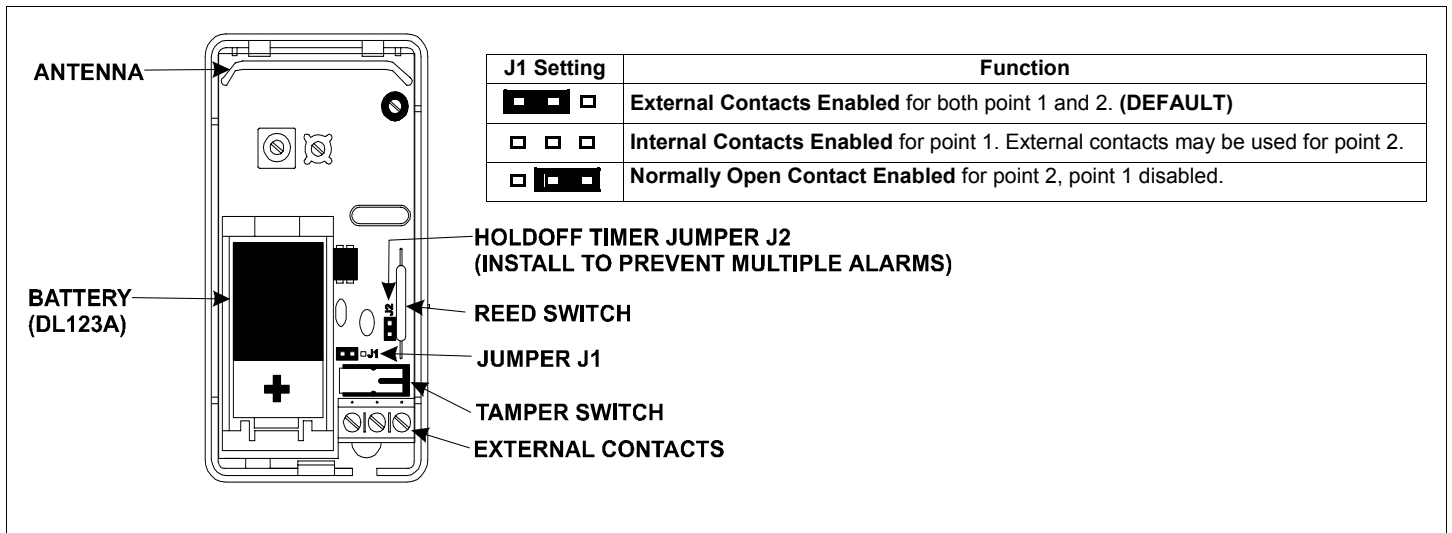

Fig. 4 Location of parts
3. **Identify transmitter parts.** Refer to Fig. 4.
9. **Complete transmitter setup.** Install Jumper J2 (see Fig. 4) to enable the holdoff timer (after triggering, unit waits 3 minutes before retriggering). For example, if used on doors in heavy traffic areas, this will prevent multiple alarms and thereby conserve battery life. **Note:** If J2 is installed, both points will be delayed 3 minutes before retriggering. If internal reed switch is used, remove Jumper J1 (see Fig. 4) and short Point-1 (Terminals 1–2). An external contact may be connected to point 2.